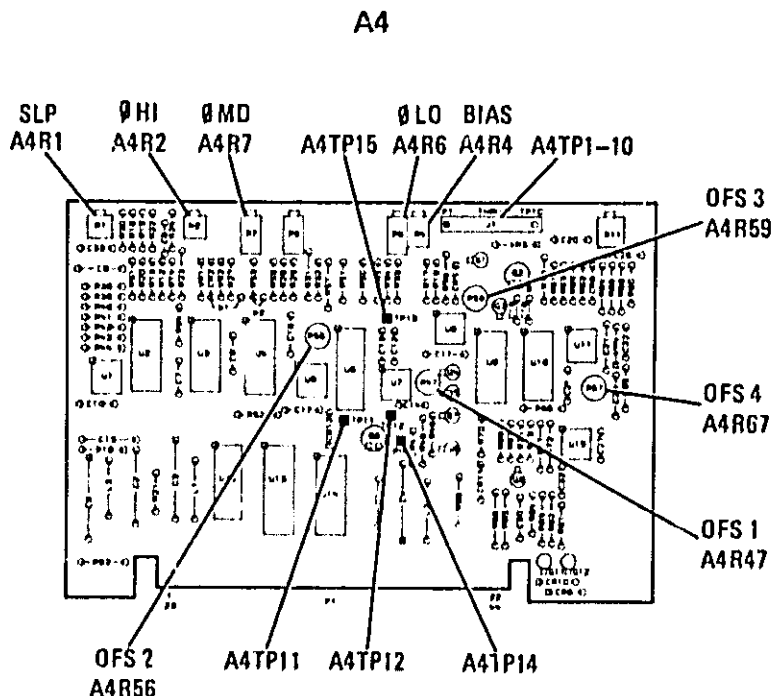

Figure 5-18. ALC Adjustments Location
2. Connect the digital voltmeter to A4TP12 with floating ground on A4TP14. Refer to Figure 5-18. Adjust A4R47 OFS 1 (offset 1) for  $0.000V \pm 0.001V$ .